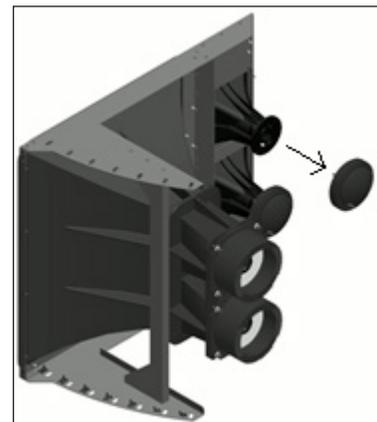

Figure 26: A-2302 Removal
- c. Pull off the bad driver. Refer to **Figure 26**.